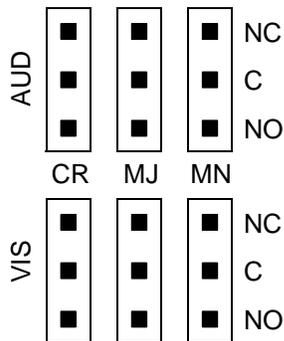

Figure 3-26 Alarm Connections
Connect the TimeSource 3600 alarms to the office alarm panel at the critical (CR), major (MJ), and minor (MN) wire-wrap pins. See Figure 3-14 for the location of the alarm pins, and Figure 3-26 for the connections.